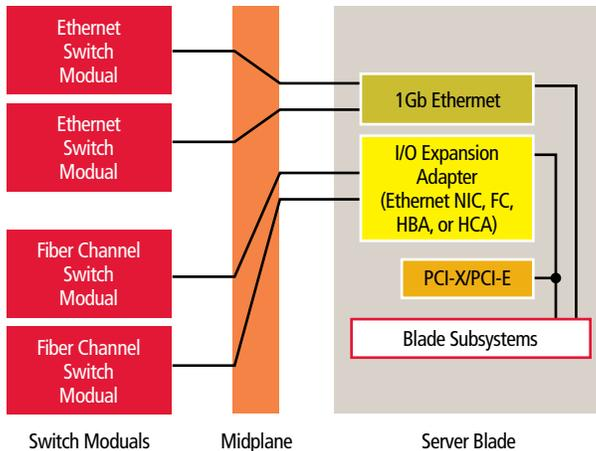

Figure 5
Blades support a number of networking options for IP-based networking via Ethernet, Fibre Channel (FC)-based networking and high speed low-latency InfiniBand (IB). Every blade comes with at least one 1-gigabit Ethernet (1GbE) network interface card (NIC) standard for management and lights-out operations and some number of expansion slots for additional network capabilities. These networking options are supported primarily through mezzanine (or daughter) cards that attach to the blade. Each blade has support for some number of PCI express expansion slots, e.g., the HP ProLiant BL480c blade server supports three expansion slots. The network signals are carried through the midplane to switch modules, pass-thru modules or to HP's Virtual Connect module on the other side of the midplane (see Figure 5 on page 6).